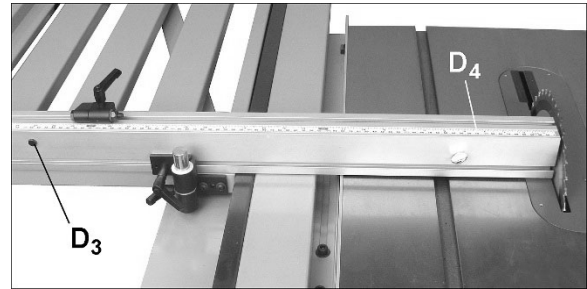

Figure 8-11
1. Loosen screw (D₃, Figure 8-11) and move fence scale (D₄) flush with right end of fence. Tighten screw (D₃).
With fence at rear position, loosen screw (D₃, Figure 8-11). Remove scale, rotate it 180° and slide it back into fence. Number sequence now begins properly from blade area.